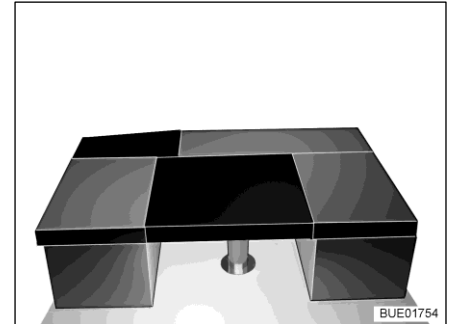

Fig. 153 After conversion
- Place the rectangular additional cushion on the table (between the seat cushions of the benches, see Fig. 153).